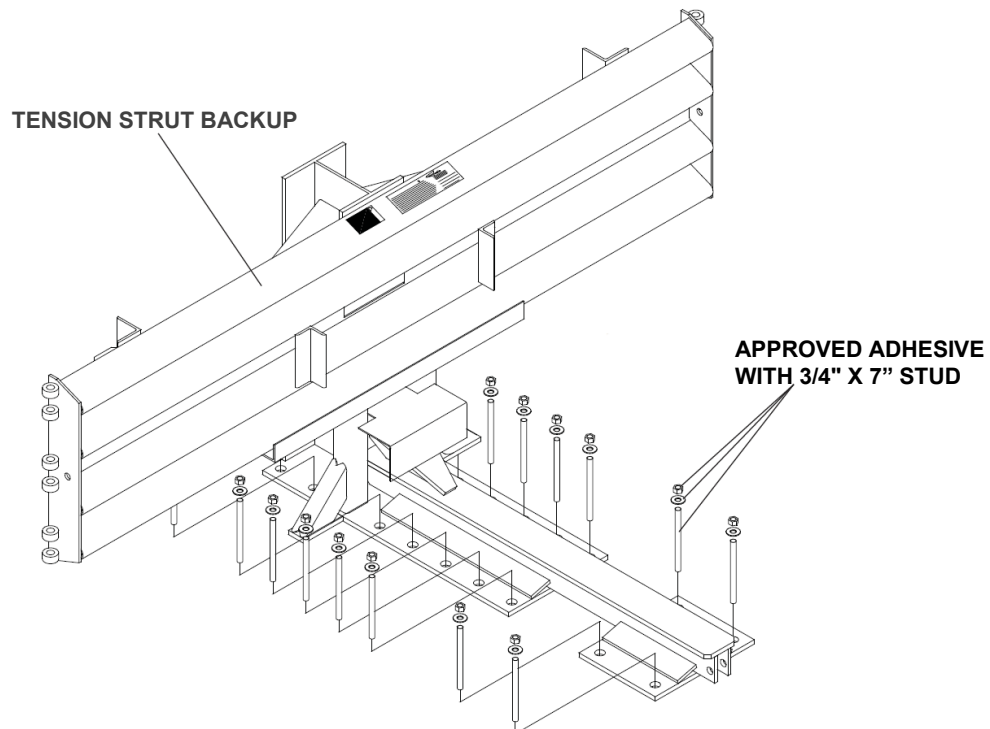

Figure 51
B) Tension Strut Backup Assembly (Figure 51)